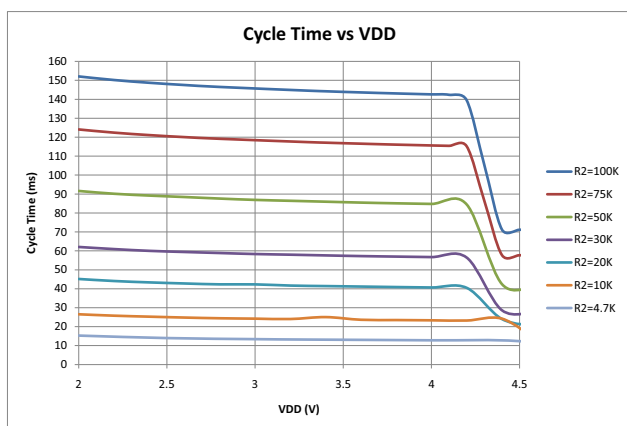

Figure 6. Cycle Period vs. V_{DD}
Notes: 1. Max column also applies to $V_{DD} > 3.6\text{ V}$. See Figure 6. 2. When operating at $V_{DD} = 2.0\text{ V}$, the typical TXO current is 250 mA.
- Updated Figure 1 and Figure 6.